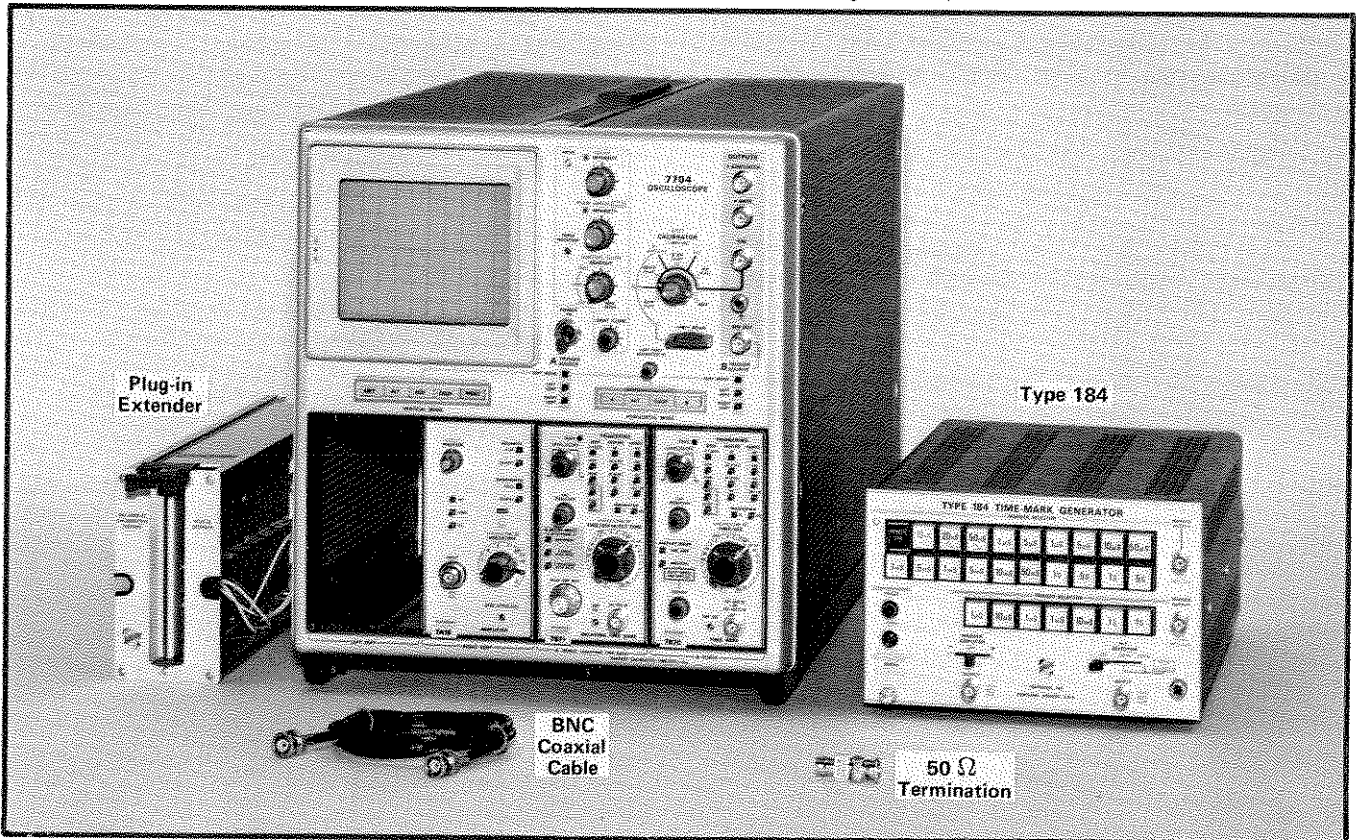

Fig. 5-6. Test equipment required for steps 13 through 25.
- a. Test equipment required is shown in Fig. 5-6.